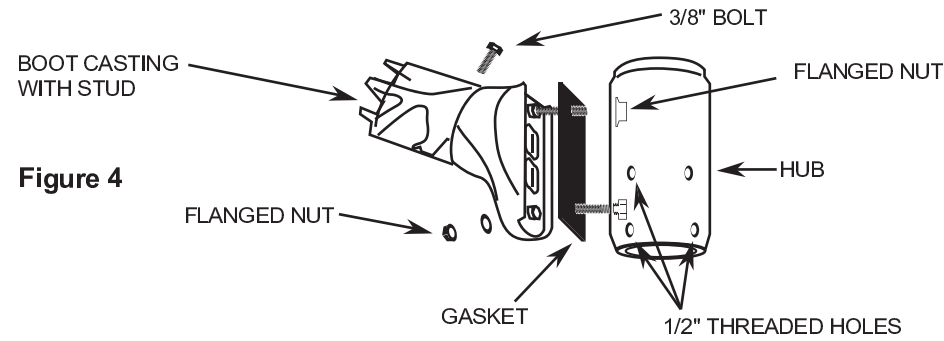

Figure 4
2. There are 2 boot castings; 1 has a stud protruding out mounting side. With this boot casting in one hand, round portion pointing upward, peel backing off one gasket and line up with holes in casting. Insert stud into top 9/16" hole of hub. Reaching inside the hub, thread a flanged nut onto stud. Insert a 1/2" bolt inside hub, and push through lower 9/16" hole, through other 9/16" hole of boot casting. The head of this bolt will fit between the ribs inside hub. Secure with flanged nut (See Fig. 4). Repeat for D180, D70, and Quad.